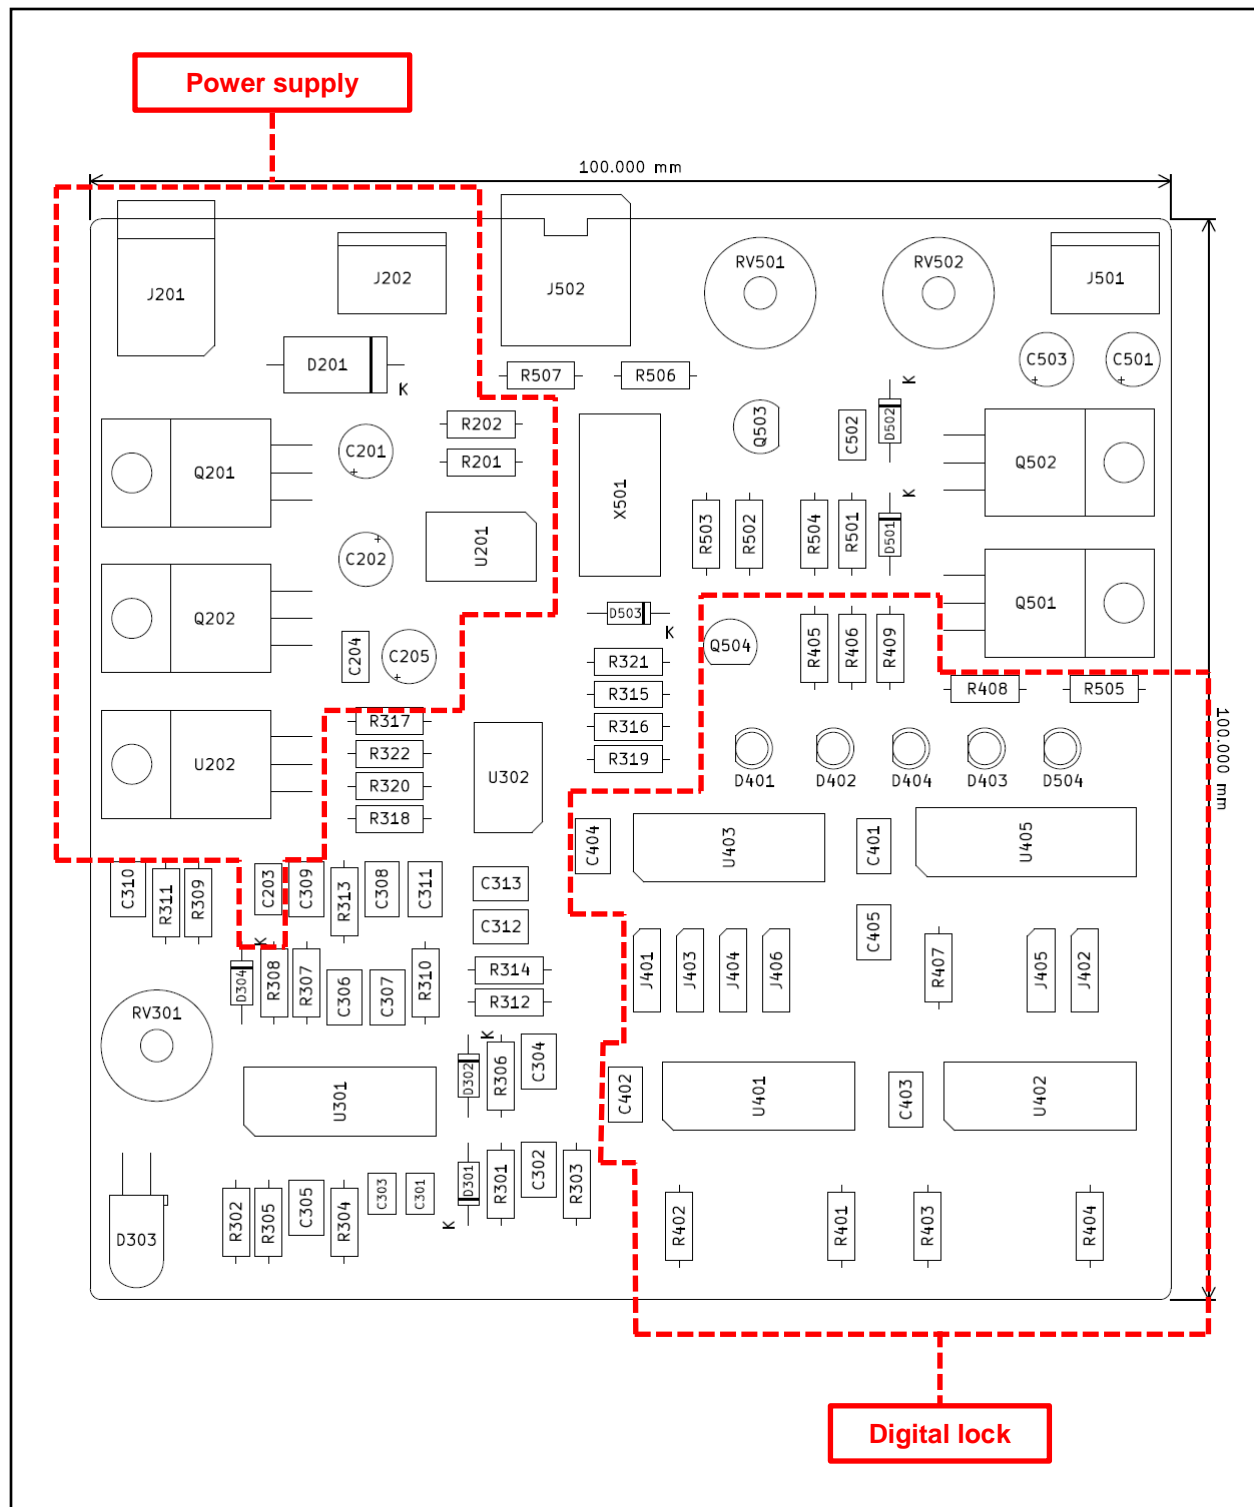

Figure 2: Receiver PCB assembly diagram
7. Locate the reference designator of the component you wish to populate on the PCB. If you have trouble locating the reference designator, see the **assembly diagram** provided in Figure 2 (at the end of this handout).